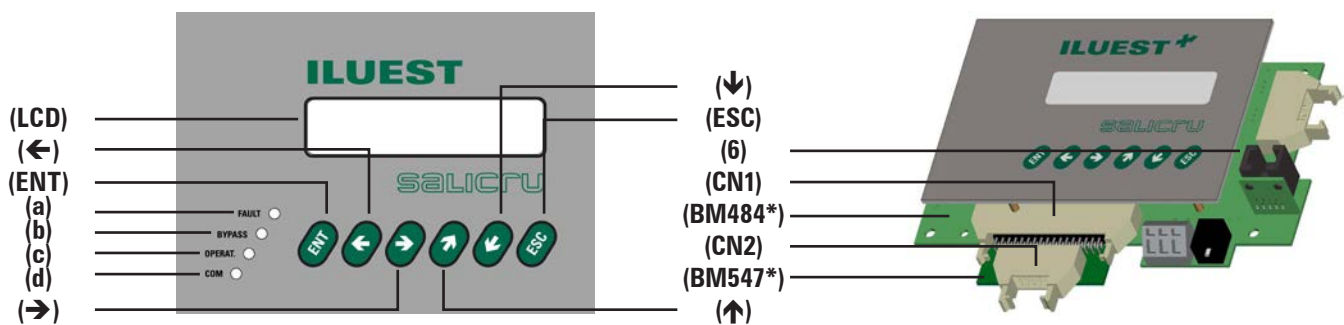

Fig. 4. View of the control panel with LCD (12).
Figures 4 and 11 are complementary and they correspond to the view of the control panel with LCD and control cards BM535* / BM536* /BM542* respectively.
- (11_S) (3) Control cards BM535* / BM536* / BM542* for phase S.
- (11_T) (3) Control cards BM535* / BM536* / BM542* for phase T.
- (12) Control panel (see figure 4):